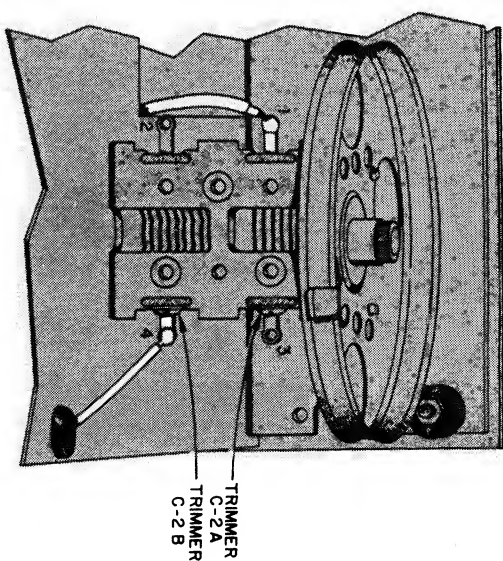

FIGURE 16. C-2 WIRING DETAIL
- ☐ Yellow wire from grommet B. Refer to Figure 16 for the correct terminal location. Solder the free end of the wire to terminal 4 of C-2.
- ☐ White/black wire. Refer to Figure 16. Solder one end to terminal 1 of C-2. Push the other end of the wire down through the chassis cutout; it will be connected later.
- ☐ Repeat the procedure of finding and identifying a station, but near 1600 KC. If the dial setting does not correspond to the frequency listed or given for that station, set the dial to the correct frequency and adjust C-2B (See Figure 16) until the station is heard.
- ☐ Keep the receiver tuned to the station near 1600 KC and recheck the adjustment of ANTENNA for maximum S-meter indication and loudest volume. Turn C-2A (see Figure 16) completely clockwise, as far as it will go easily. Now turn the other way (counterclockwise) for maximum volume or maximum S-meter indication. **Do not turn C-2A more than 2 turns counterclockwise.**